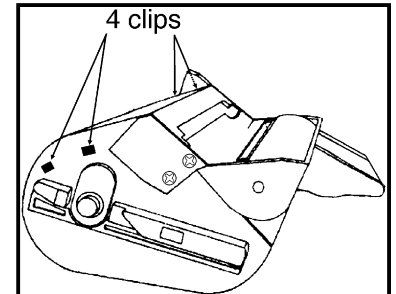

Figure 1
1. Remove the phillips head screw (1) from the drum axle on the non-gear end of the unit. Pull the axle out about 1/4". Slide the drum to the right about 1/8".
2. Remove the snap on plastic shield by unlatching the 4 clips that hold it in place (Fig. 1).